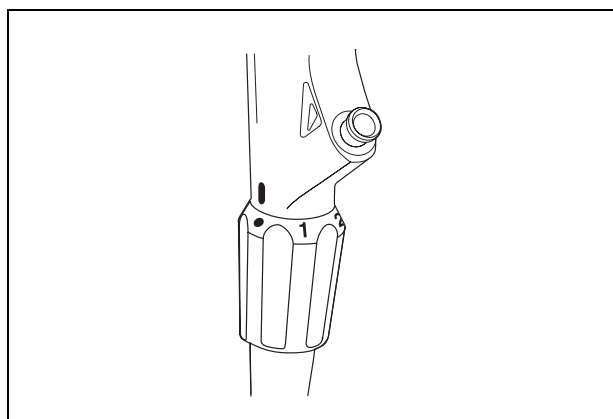

Figure 3.4
1. Confirm that the marks ("●", "1", "2", "3") on the flexibility adjustment ring and the "I" mark at the bottom of the grip section are clearly visible (see Figure 3.4).